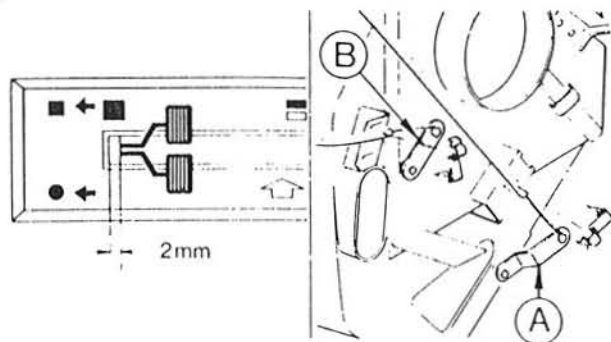

Fig. 11.26 Heater control cable adjustment on standard heater (Sec 40)
- 2 Move the heater controls to a point 2 mm (0.08 in) from the end position, then remove both outer cable clips (see Figs. 11.26, 11.27 and 11.28 as appropriate).